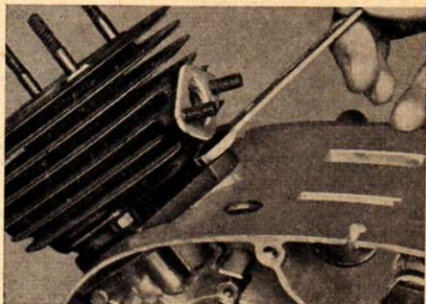
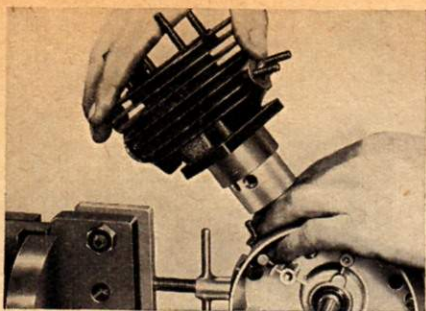

Fig. 23 Loosening cylinder base nuts VI / 56 / 1806
Fig. 24 Removing cylinder
1. Remove the four M 6 hexagonal nuts securing the cylinder head with a box spanner (SW 10) as shown in fig. 23, lift off cylinder head with the four spring washers and remove cylinder head gasket.
2. Unscrew the four M 6 hexagonal nuts from the threaded pins on the cylinder base (illustrated on fig. 23). Remove spring washers or spring rings and draw out cylinder (see fig. 24).